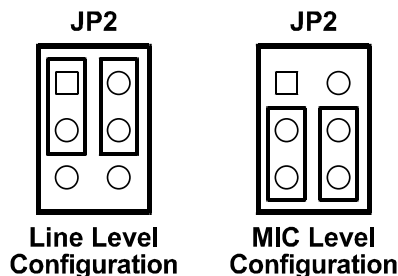

Figure 3-3. JP2 Jumper Settings
- The JP2 jumper, shown in Figure 3-3, is a six pin header. It is used to configure input jack, J1, for either line level or microphone input. The center pin in each group of three is connected to one of the AD1847 codec’s input pins. Jumpers (also known as shunts or shorting links) can be used to connect these pins to either the output of the microphone amplifier or to the output of the line level input filter.
The ADSP-218x EZ-ICE Emulator aids the debugging of an ADSP-2181 system. The emulator consists of hardware, host computer resident software, and the target board connector. The ADSP-2181 integrates on-chip emulation support with a 14-pin ICE-Port interface (Figure 3-3). This interface provides a simpler target board connection that requires fewer mechanical clearance considerations than other ADSP-2100 EZ-ICEs. The ADSP-2181 device need not be removed from the target system when using the EZ-ICE, nor are any adapters needed. Due to the small footprint of the EZ-ICE connector, emulation can be supported in final board designs.